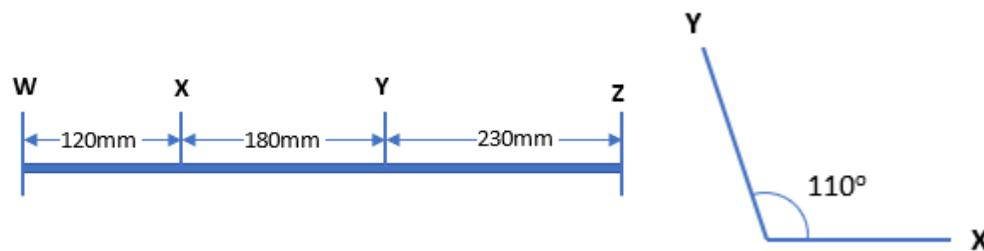

Figure 3(b) / Rajah 3(b)
- CLO1 (b) A rotating shaft as shown in Figure 3(b). The mass X is 12 kg and Y is 6 kg at radius of 800 mm and 450 mm respectively. Two masses with radius of 600 mm are placed at W and Z to produce a balanced system. Calculate the mass at W and Z.